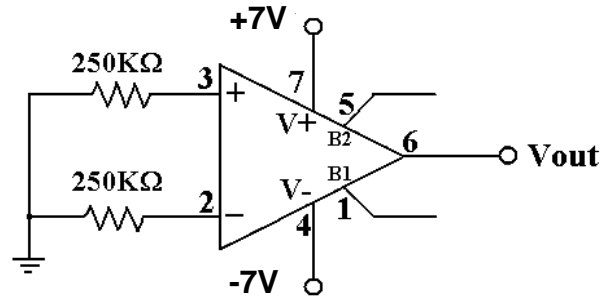

Fig. 4. Offset Current Measurement Configuration
1. Connect the circuit in Fig. 4, and use the dual power supply  $\pm 7V$ . Measure the resistor values accurately before you connect them. Measure the voltages across the two  $250k\Omega$  resistors. Connect the Opamp output to ground.